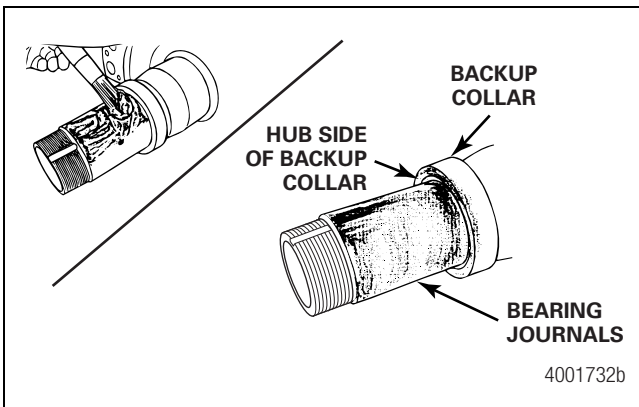

Figure 3.28
- **If the hub assembly does not use a spindle O-ring:** Apply a light coating of bearing grease to the axle spindle bearing journals and the hub side of the backup collar. This grease will help reduce spindle wear, assist in hub removal, and help seal the hub-spindle joint. Figure 3.28.